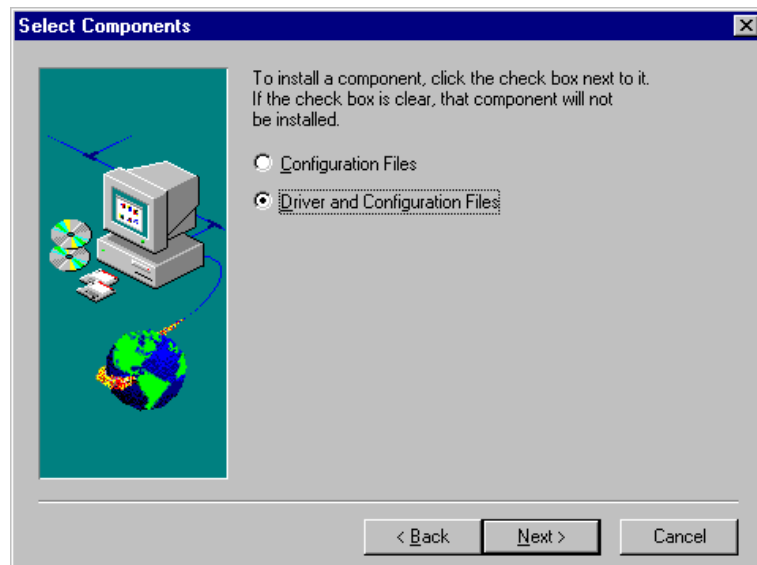

Figure 7-3. Select Components
3. You will be prompted whether you wish to install Configuration Files or Driver and Configuration Files (Figure 7-3). The purpose of this prompt is to allow you to set up an administrator's system that can run the configuration utility but does not have an adapter installed. Driver files are only needed on servers where an adapter is installed. Click **N**ext to continue.